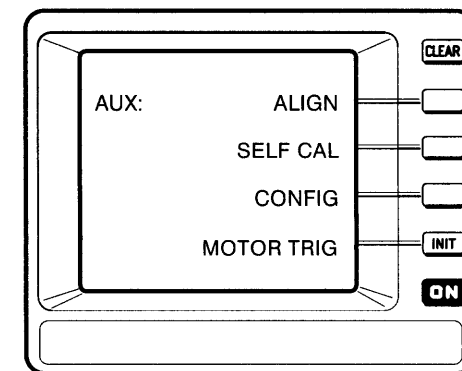

Figure A-8: The Auxiliary Functions Menu
- Step 1:** Press the button labeled **AUX FUNCT** on the top panel. This accesses the auxiliary functions menu, as shown in Figure A-8.